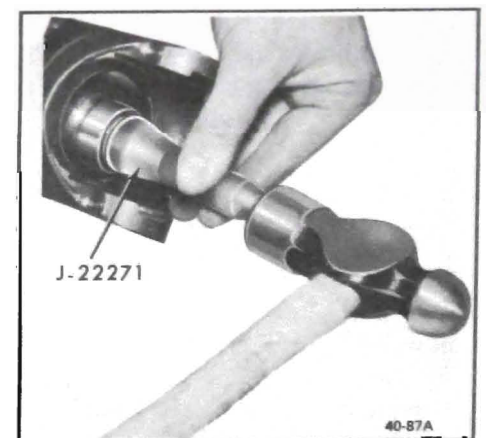

Figure 40-76 Installing Ball Stud Seal
2. Pack spring cavity with grease supplied in repair package which meets GM-6040-M. This grease is available in 14 oz. containers through the Parts Department Group 8.800 part number 1050679. Install spring, ball seat washer, ball stud seats and .040" spacer. Apply a thin coat of non-hardening sealer such as number 2 Permatex or equivalent to the outer diameter of the seal to insure adequate sealing and install seal with lip toward the seat using Tool J-22271. See Figure 40-76.